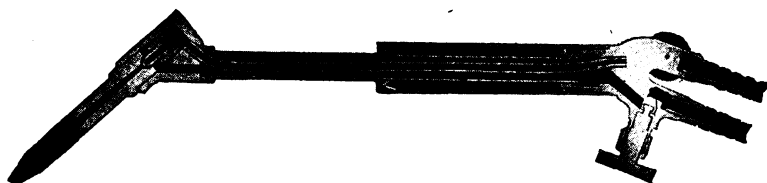

Fig. 7. Section of Injector-Type Blowpipe
**Injector Blowpipe.** In the injector type, Fig. 6, the acetylene is delivered to the blowpipe at a pressure of only a few ounces. The oxygen at a higher pressure passes through the injector, Fig. 7, and expands rapidly into the mixing chamber. This rapid expansion and high velocity of the oxygen form a suction and draw in the acetylene at a constant ratio. A slight variation in pressure of either